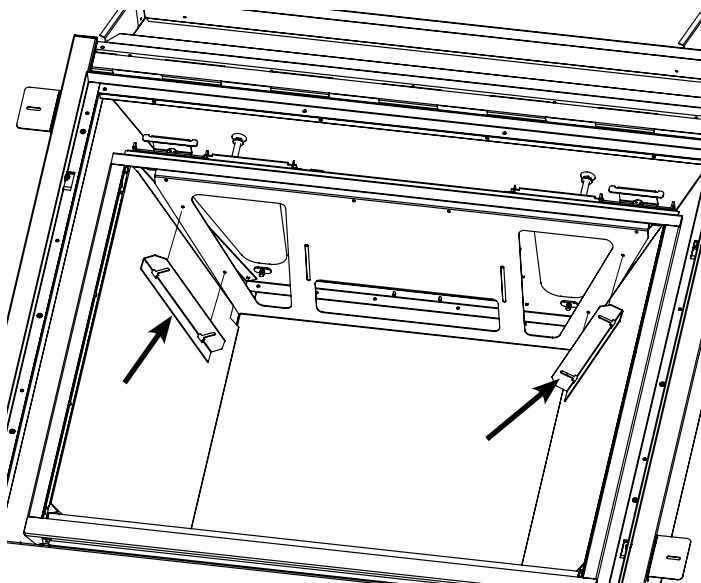

**Figure 79: Light Deflector Removal**
2. Remove the light deflector at the top front of the firebox by loosening the four (4) retaining screws. The light deflector is slotted. (see Figure 79).
3. Next, remove the liner front edge retainers. There are two (2) screws per side holding the retainers in place.